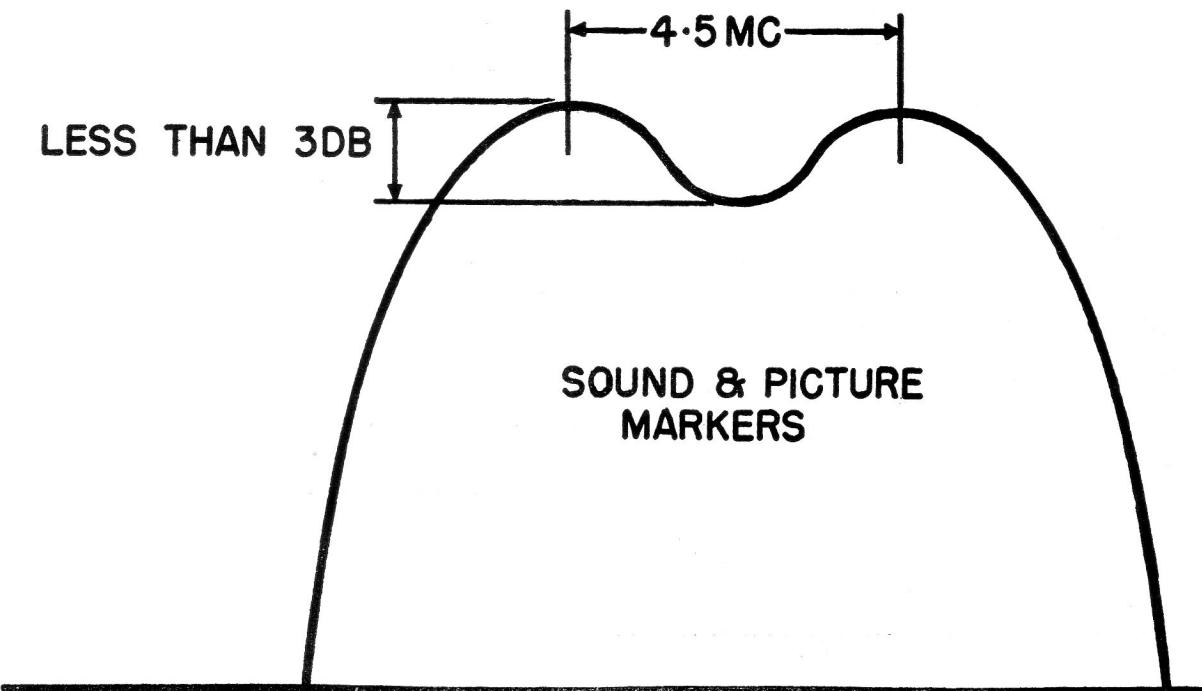

Figure 6
6. Adjust (A), (B), and (C) on tuner for the response curve shown in Fig. 6.